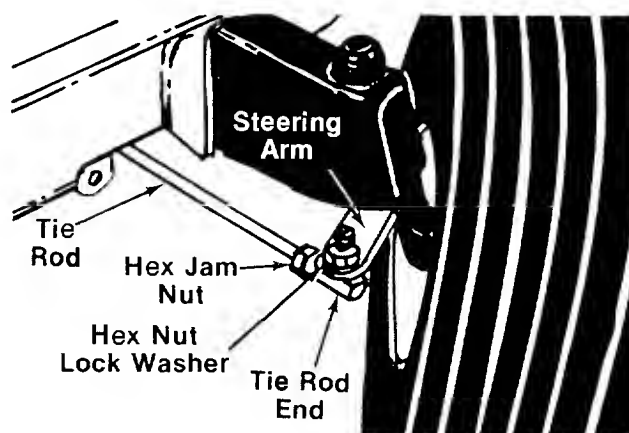

FIGURE 20.
1. Remove the hex nut and lock washer, and drop the tie rod end from the wheel bracket. See figure 20.